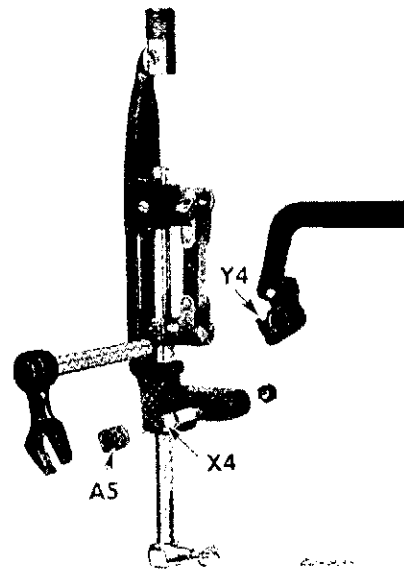

Fig. 68. Exploded View of
3. Loosen clamp screw **Y4** and withdraw needle vibrator lever fork completely from slide bushing shown in exploded view in Fig. 68.
5. Press holder toward hand wheel and insert eccentric stud **X4**, **Fig. 68** into needle bar holder. Then place slide bushing on eccentric stud, setting shoulder of flat sides toward needle bar holder.
6. Simultaneously place fork over the two flat sides of bushing **A5**, **Fig. 68** and insert lever end of fork into clamp at **Y4**, **Fig. 68**. Add shim of .003" between pitman crank and fork bushing. Then tighten screw **Y4** and remove shim.